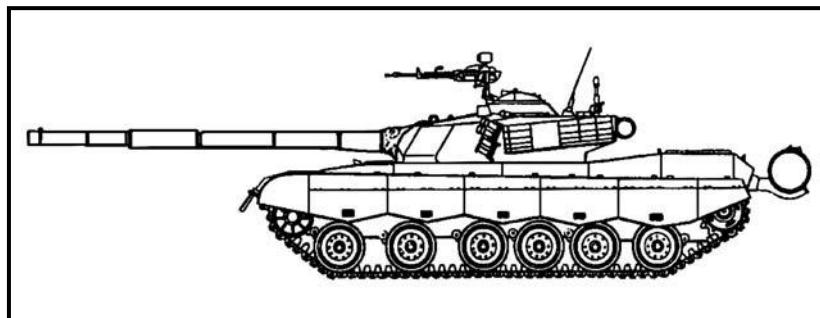

Figure H-5. Chinese main battle tank, Type 85-IIM.
(5) Chinese Main Battle Tank, Type 85-IIM (Figure H-5).